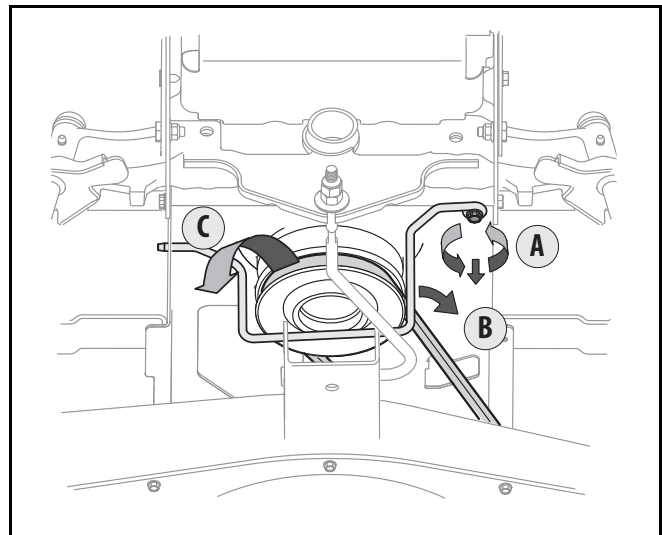

Figure 21
5. Remove the belt keeper rod from around the engine pulley by removing the self-tapping screw (A) that secures it. See Figure 21 .